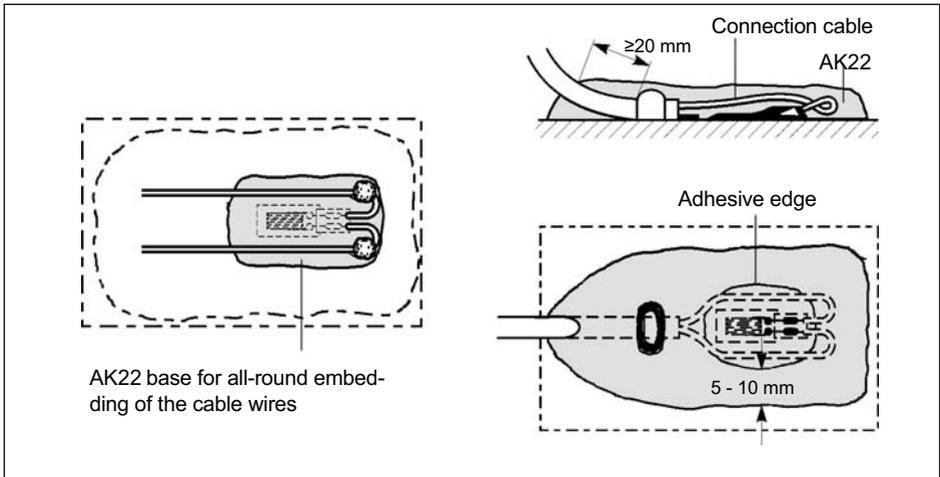

Fig. 6.1 Measuring point with protective cover
- Cable entries must be very carefully sealed. The covering agent must surround the wire ends on all sides, including from underneath, to ensure that no channels or capillaries form through which moisture could penetrate inside the cover. Embed cable wires individually in the covering agent, in the case of multi-core cables, and cover a part of the cable sheath as well with the covering agent (*Fig. 6.1*). In critical ambient conditions, roughen the cable insulation first and degrease it with chemically pure solvent.